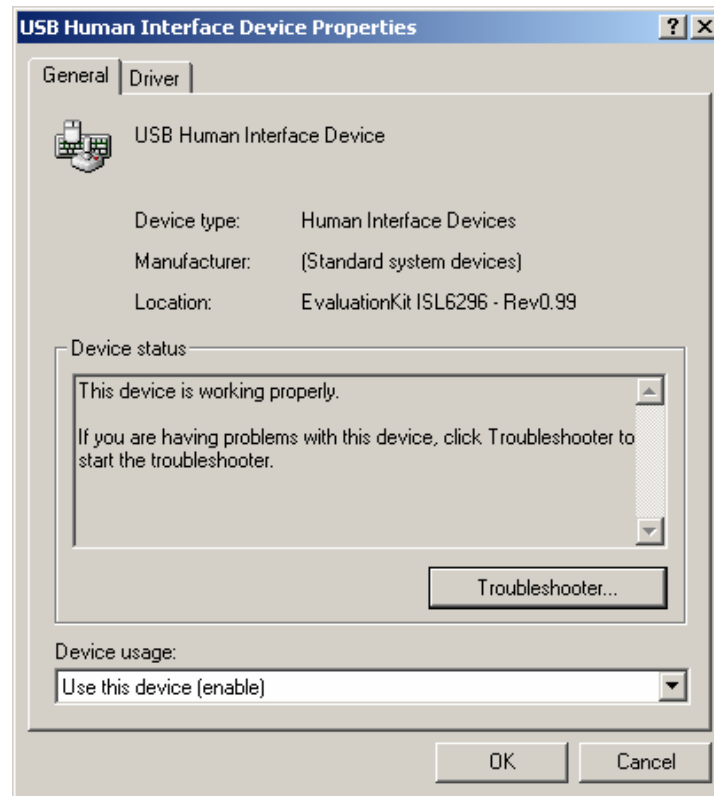

FIGURE 18. SCREEN SHOT OF THE USB HID PROPERTIES WINDOW
3. Double-click on the USB Human Interface Device, then Figure 18 will appear.
In Figure 18, one can find "Location: Evaluation Kit ISL6296...". This is the confirmation that the interface board is properly recognized by the operating system.